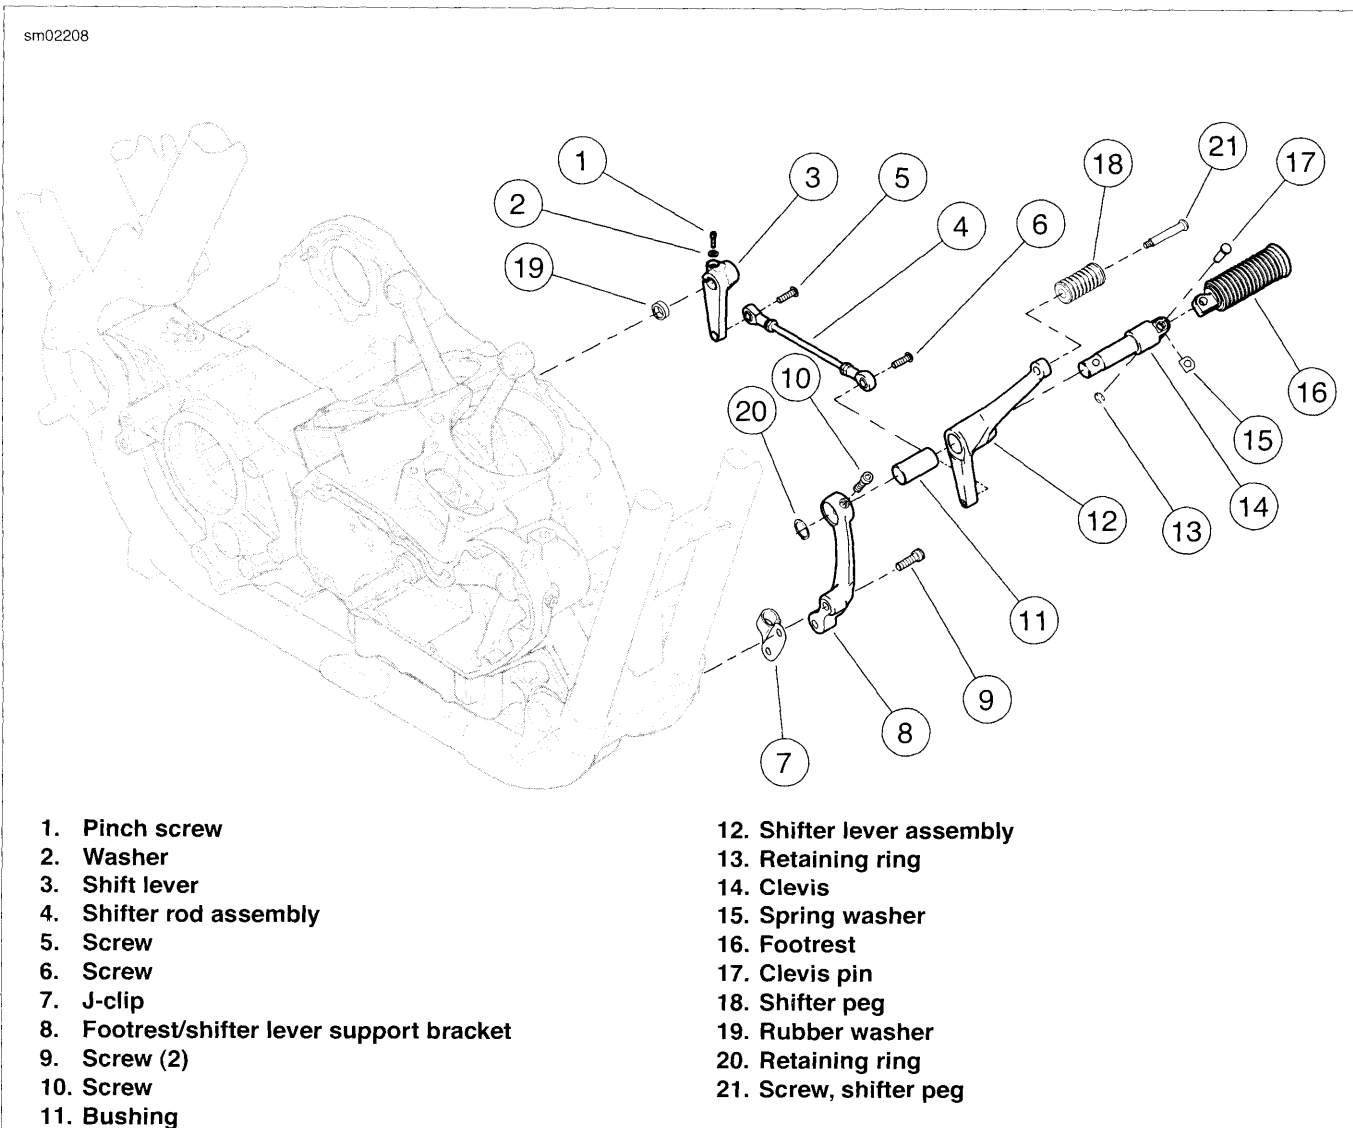

Figure 2-249. Forward Controls - Shifter Side
- See Figure 2-249. Remove retaining ring (13), clevis pin (17), footrest (16) and spring washer (15). Discard retaining ring.
- Remove screw (21) and shifter peg (18).
- Remove shifter rod assembly (4) from shifter lever assembly (12) and shift lever (3).
- Remove retaining ring (20), screw (10) and clevis (14). Slide shifter lever assembly off clevis. Discard retaining ring.
- Remove two screws (9), footrest/shifter lever support bracket (8) and j-clip (7) from frame.
- Remove pinch screw (1), washer (2), shift lever (3) and rubber washer (19) from transmission shift shaft.
1. See Figure 2-249. Install rubber washer (19) and shift lever (3) onto transmission shifter shaft, with shift lever arm pointing straight down. Secure with pinch screw (1) and washer (2). Tighten pinch screw to 16-20 ft-lbs (21.7-27.1 Nm).
2. Mount j-clip (7) and footrest/shifter lever support bracket (8) to frame with two screws (9). Tighten to 45-50 ft-lbs (61-68 Nm).
3. Slide shifter lever assembly (12) onto clevis (14). Mount clevis on footrest/shifter lever support bracket. Line up hole in hole with hole in support bracket. Secure with screw (10). Tighten to 13-17 ft-lbs (17.6-23.0 Nm). Install retaining ring (20) on end of clevis.
4. Mount footrest (16) on clevis with spring washer (15). Make sure spring washer is positioned inside clevis with the